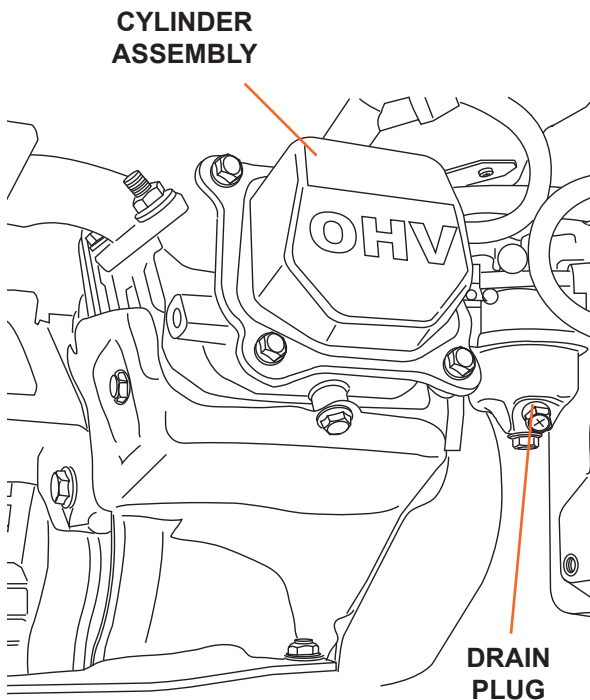

Figure 28
4. Drain the carburetor (see Figure 28).